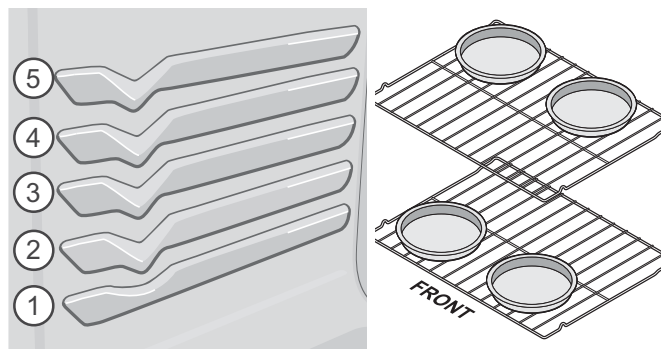

Figure 23: Convection rack positions (L) and pan placement (R)
- When baking using two oven racks, position the bakeware as shown in Figure 23.